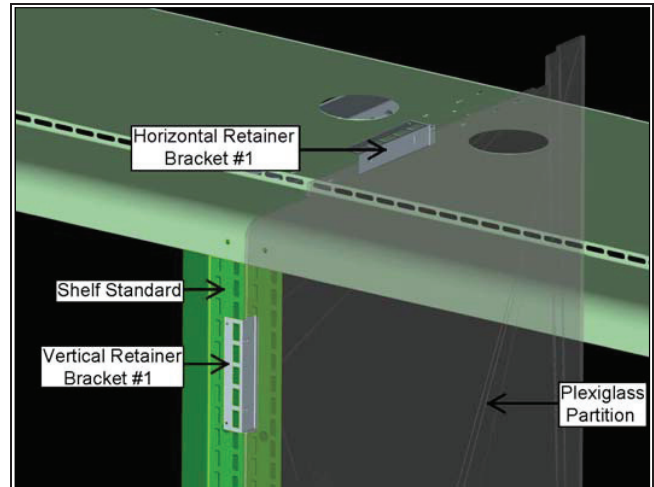
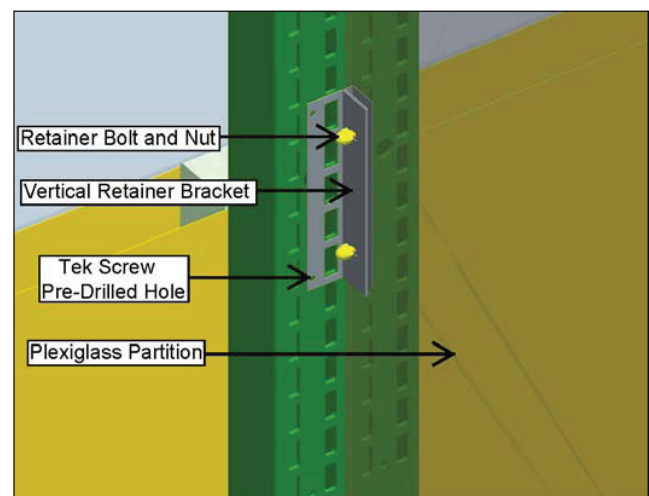

Figure 1: Top of Plexiglas Partition
Figure 3: Vertical Retainer Bracket Installation
STEP 1 Mount the two vertical retainer brackets to the shelf standard (figures 1 & 2) using the supplied tek screws (8-18x3/4). The rectangular cutouts in the retainers must align with the rectangular slots in the shelf standard. Vertical Retainer Bracket #1 should be located below the 3rd slot from the top and Vertical Bracket #2 should be located above the 6th slot from the bottom. The grooves in the vertical retainer brackets must be centered on the case to case joint. The tek screws are to be drilled through the pre-drilled holes in the retainer brackets as shown in figure 3. Note that the vertical and horizontal retainer brackets are identical.
STEP 2 Slide the Plexiglas partition into the vertical retainer brackets. Use the supplied retainer bolts and nuts (8-32x1/2) to secure the Plexiglas partition to the vertical retainer brackets as shown in figure 3. Drill additional holes in the Plexiglas if the pre-drilled holes in the Plexiglas do not line up with the holes in the retainer brackets.